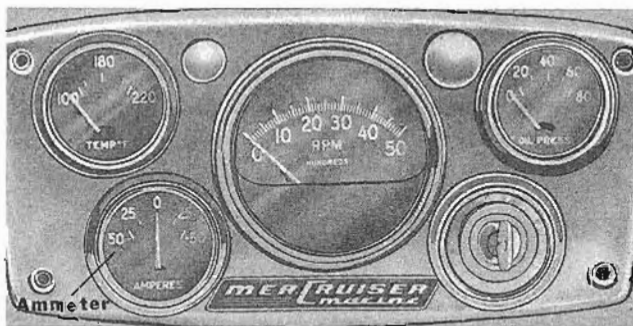

Figure 4
2. Instrument panels, which have an ammeter mounted in panel (Figure 4), must use Voltage Regulator No. 34141. This regulator is identified by a number "507" in regulator base